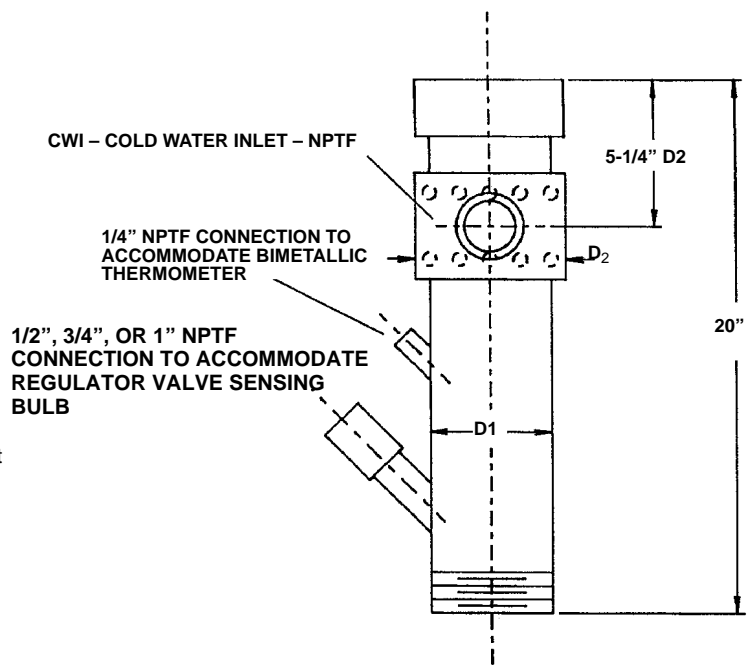

Figure 4. Automatic Drain Water Aftercooler (20A0) Dimensions
2. Model 20AO Jacket Type After Cooler (Figure 4). Required in some areas. Has mixing holes corresponding to the cold water inlet size. The lower portion is designed with wells to accommodate automatic control bulb and thermometer. When ordering state cold water inlet size.